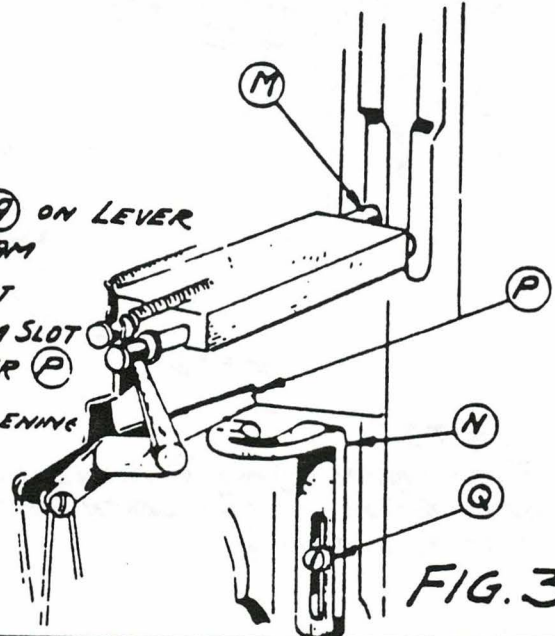

**FIG. 2**
Thread Grabber (F), Fig. 2, should be positioned to catch and lightly hold the Under Thread against the back beveled edge of the Throat Plate as the machine stops. A slight tug on the garment as it is removed from the machine will cause the thread to break at the knot of the last stitch.